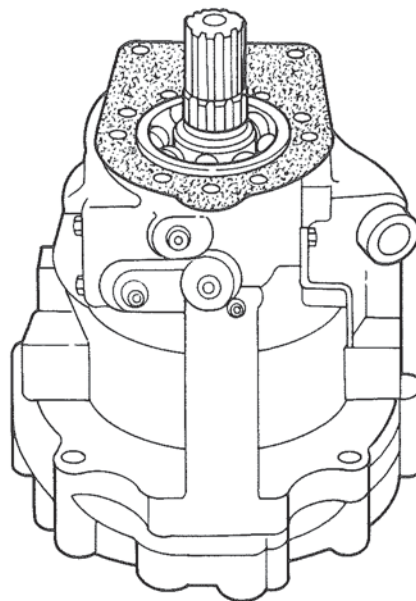

Figure 16. Assembling Gasket.
2. Place the reduction unit adapter gasket-front in position on the rear face of the transmission. Figure 16. Gasket may be coated with petroleum jelly for easier assembly.